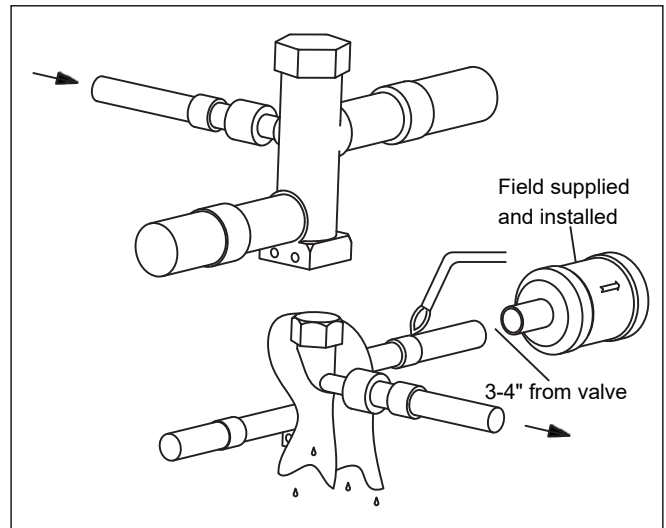

Figure 19
4. Wrap a wet rag around the valve body to avoid heat damage and continue the dry nitrogen purge (Figure 19).